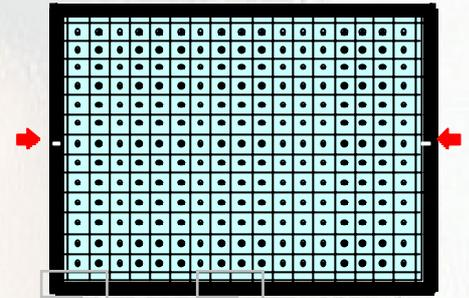

Fig.1-4 PAL CONVERGENCE
2. Use the [VOLUME +/-] key of the jig remote control and adjust so that the dot mark at the center of crosshatch screen is positioned at the center mark of CRT. (Fig. 1-4.)